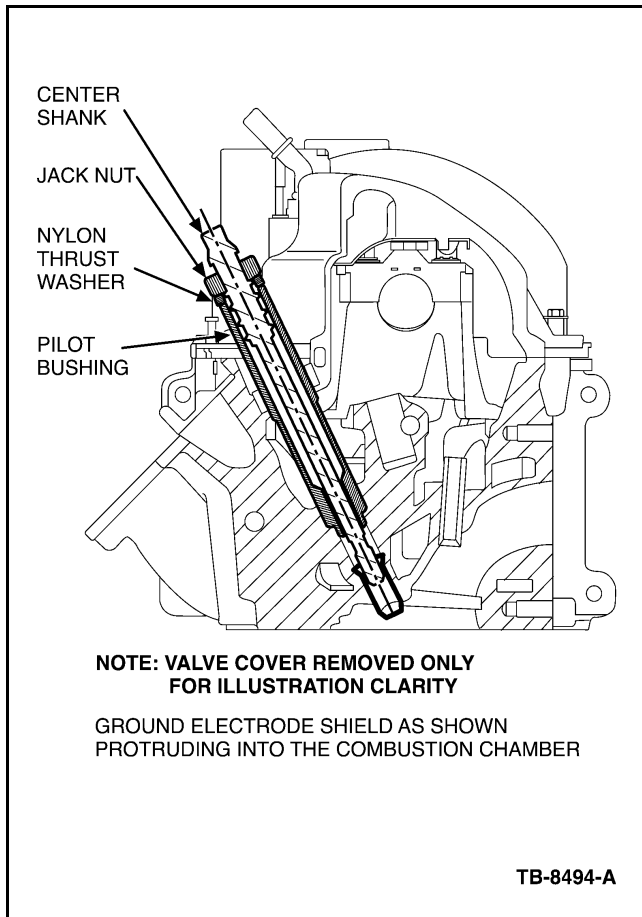
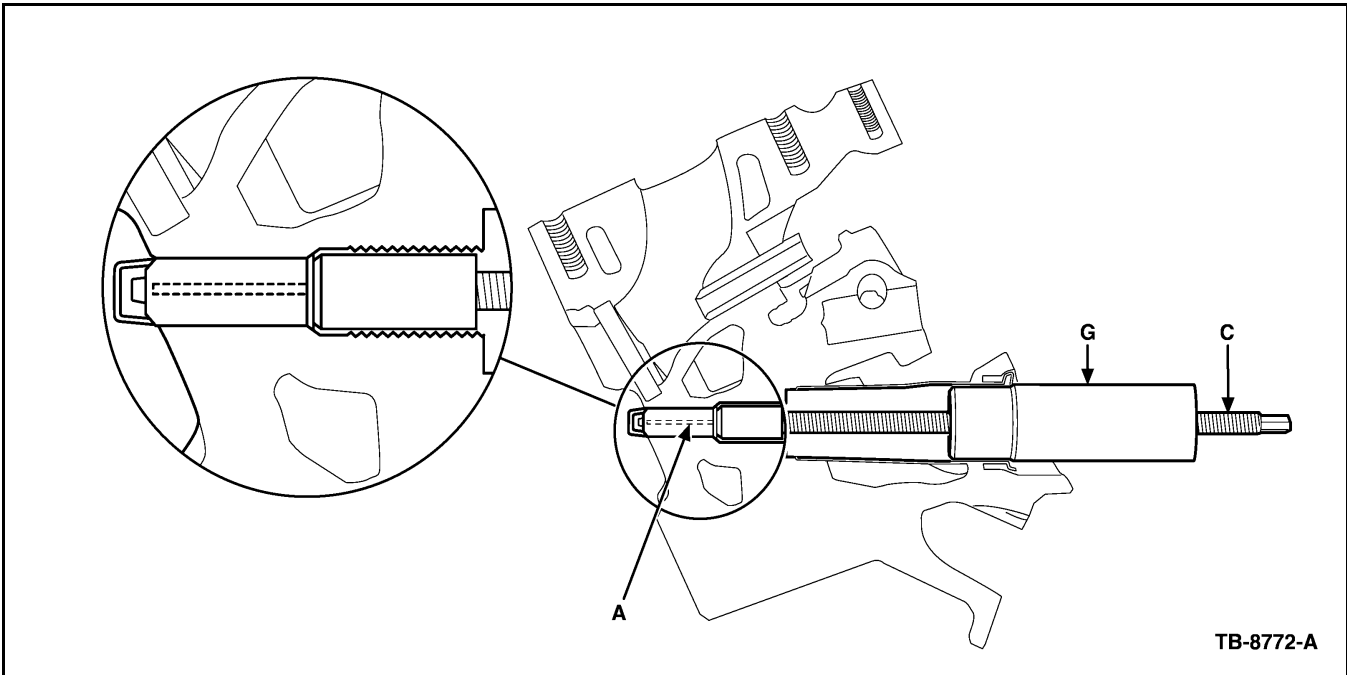

Figure 9 - Article 069-2008-1155
Figure 19 - Article 069-2008-1155
4. Thread Rotunda special service tool 303-1203 into the ground electrode shield. (Figure 9)
- Leave the pin fully inserted in the porcelain while the adhesive cures. Replace the steel tool pilot with the aluminum alignment sleeve (G), Figure 9, to support the threaded rod while the adhesive cures if additional porcelain fragments are present in other cylinders. (Figure 19).